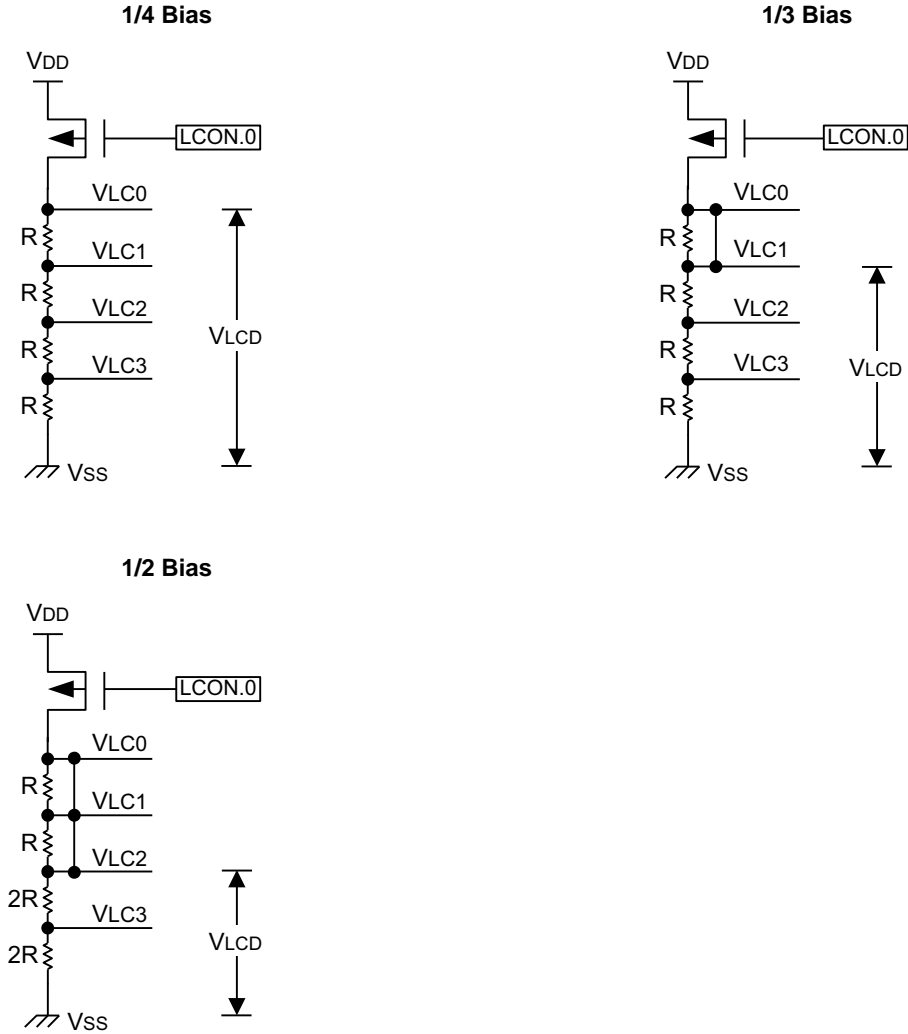

Figure 88. Internal Resistor Bias Pin Connections
Figure 88 shows the internal bias connections.
► **Note:** In Figure 88,  $V_{LC0}$  and  $V_{LC1}$  should be connected at 1/3 bias;  $V_{LC0}$ ,  $V_{LC1}$ , and  $V_{LC2}$  should be connected at 1/2 bias.